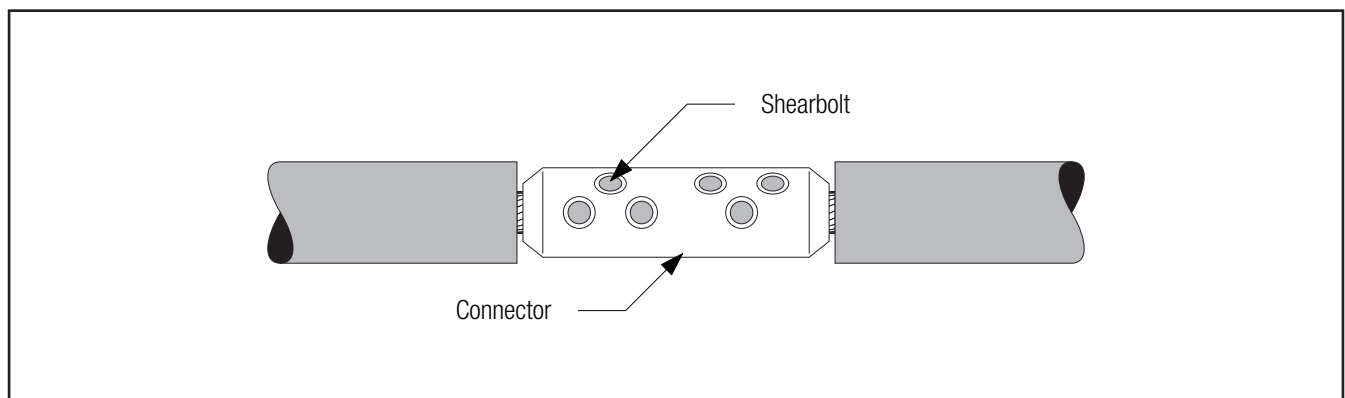

Figure 7
- 3.2 Install 3M Shearbolt Connector QCI 1/0-350 according to the instructions included with the connector (*Figure 7*).